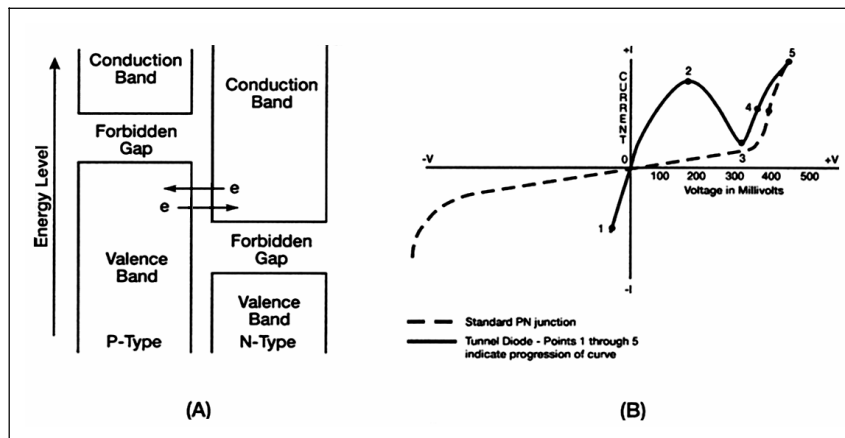

Figure 3-6. Tunnel Diode Energy Diagram With No Bias
3-20. Figure 3-6 shows the equilibrium energy level diagram of a tunnel diode with no bias applied. In view (A), the valence band of the P-material overlaps the conduction band of the N-material. The majority electrons and holes are at the same energy level in the equilibrium state. If there is any movement of current carriers across the depletion region due to thermal energy, the net current flow will be zero because equal numbers of current carriers flow in opposite directions. In view (B), the zero net current flow is marked by a "0" on the current-voltage curve.